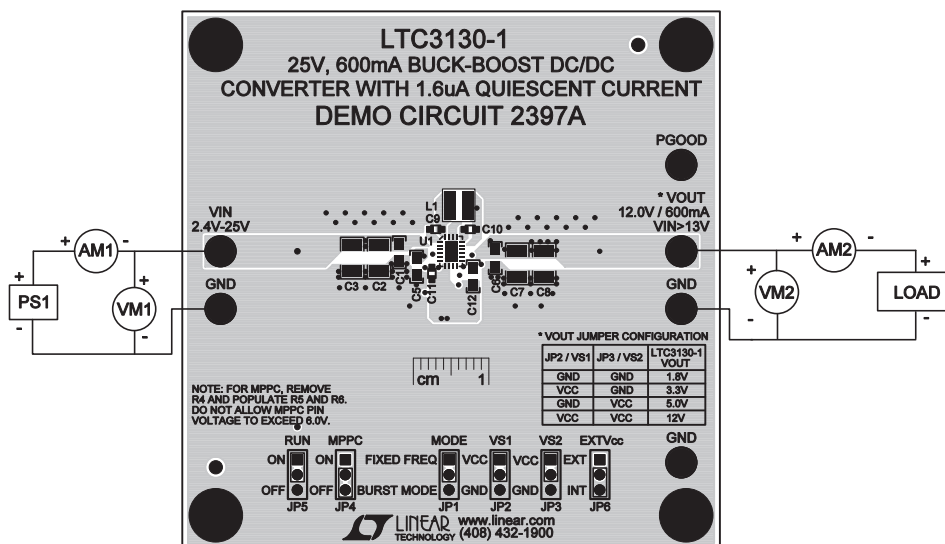

Figure 4. Proper Measurement Equipment Setup
Using short twisted pair leads for any power connections and with all loads and power supplies off, refer to Figure 4 for the proper measurement and equipment setup. The power supply (PS1) should not be connected to the circuit until told to do so in the procedure below.
2. With power OFF connect the power supply (PS1) as shown in Figure 4. If accurate current measurements are desired (for efficiency calculation for example) then connect ammeters in series with supplies as shown. The ammeters are not required however.
3. Connect a 50mA load (240Ω) to V_{OUT} as shown in Figure 4.